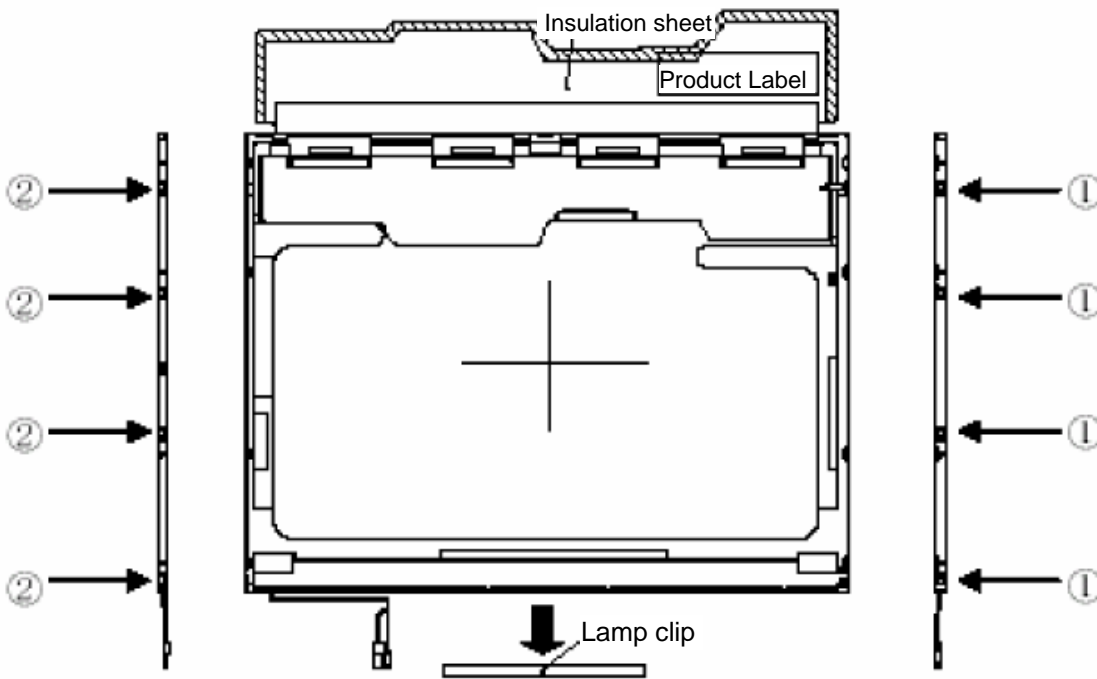

Figure 4-43 Replacing 14.1 Inch TMD fluorescent lamp (XGA) (2)
2. Spread out the insulation sheet without detaching it from the side of the bezel, as shown in Figure 4-43.
3. In the order (1) and (2) shown in Figure 4-43, remove the screws from the left- and right-hand sides of the module.